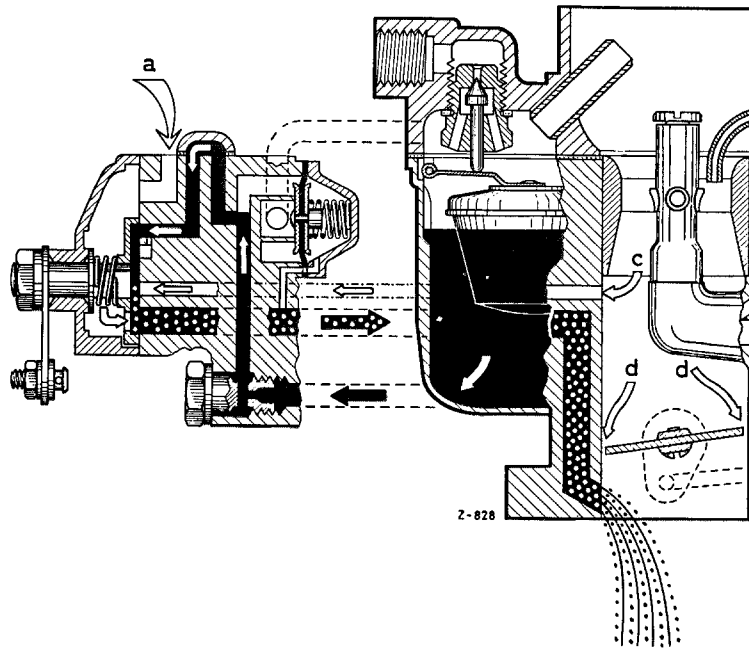

Fig. 07-0/3
At the same time air is drawn from the suction canal of the carburetor via the canal (24) into the chamber (34) of the starter rotary slide valve. This additional air combines with the pre-mixture in the mixing chamber (35) of the starter rotary slide valve. From the mixing chamber this fuel-air mixture passes into the cavity (36) of the starter rotary slide valve. Here it mixes with the air which comes via the starter air canal (38) through the starter air bore (23) in the starter rotary slide valve which acts as a starter air jet. Through the starter mixture canal (25) this mixture now passes into the suction canal of the carburetor where it combines with the air streaming through the throttle valve gap to produce the finished starting mixture. Fig. 07-0/3 shows the mode of action of the starter mechanism during the 1st phase when the engine is being started.